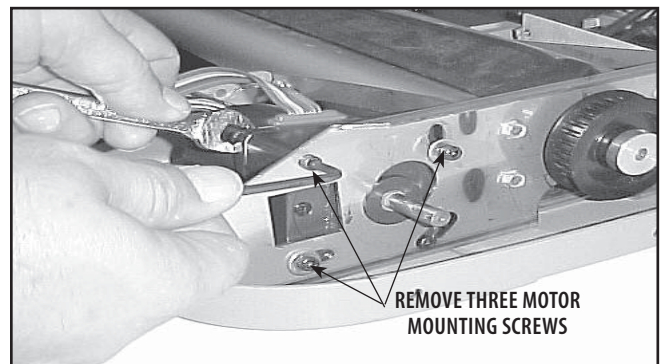

FIGURE 6.6
6. Remove the three motor mounting screws using the 9/64" Allen wrench and remove Motor from unit. **Refer to Figure 6.6.**